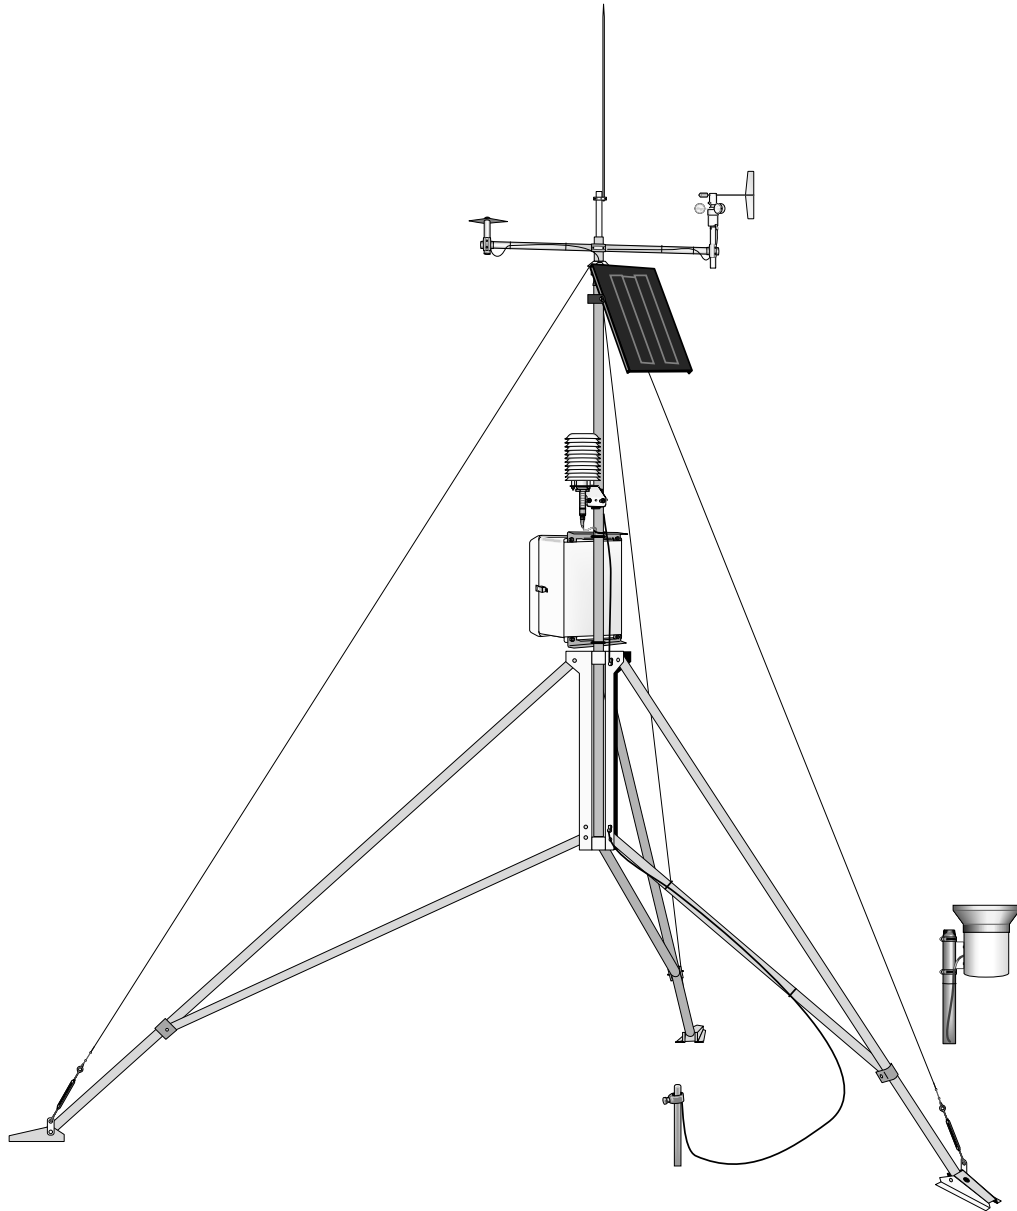

FIGURE 2-1. CM10 Weather Station
The CM6 and CM10 tripods provide a support structure for mounting weather station components. Figure 2-1 shows a typical guyed CM10 tripod weather station equipped with instrumentation enclosure, meteorological sensors, and solar panel.
Ground the tripod and shown in Figures 2-1, 2-4, and 2-5.
4. Attach the lightning rod to the mast as shown in Figure 2-1. If the weather station includes an 019ALU crossarm, attach it to the mast first, as described in Section 2.2-1 of the weather station installation manual. Loosen the two screws on the lightning rod mounting bracket. Position the mounting bracket 4 inches down from the top of the mast, then tighten both screws evenly. Make sure the lightning rod set screw is tight.